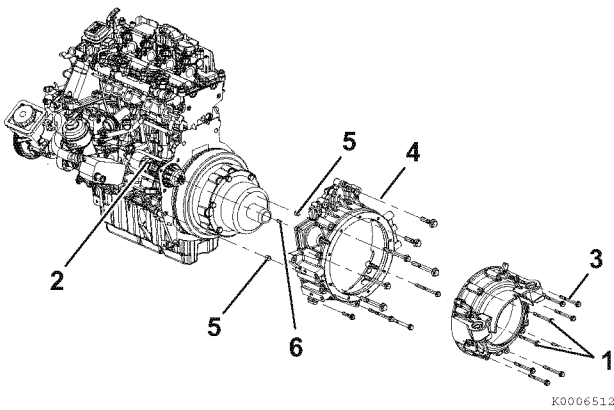
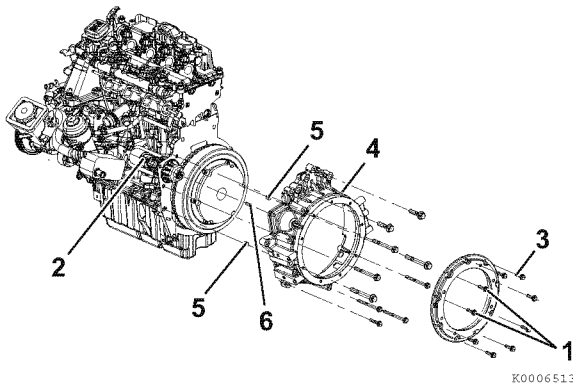

Figure 5-64
Figure 5-65
3. Remove two bolts ((1, **Figure 5-64**) and (1, **Figure 5-65**)) and remove starter motor ((2, **Figure 5-64**) and (2, **Figure 5-65**)). See *Remove and Install Starter Motor on page 10-5.*
5. Remove 11 bolts ((3, **Figure 5-64**) and (3, **Figure 5-65**)). Remove housing ((4, **Figure 5-64**) and (4, **Figure 5-65**)). Use care not to lose the two alignment sleeves ((5, **Figure 5-64**) and (5, **Figure 5-65**)) and the dowel ((6, **Figure 5-64**) and (6, **Figure 5-65**)).